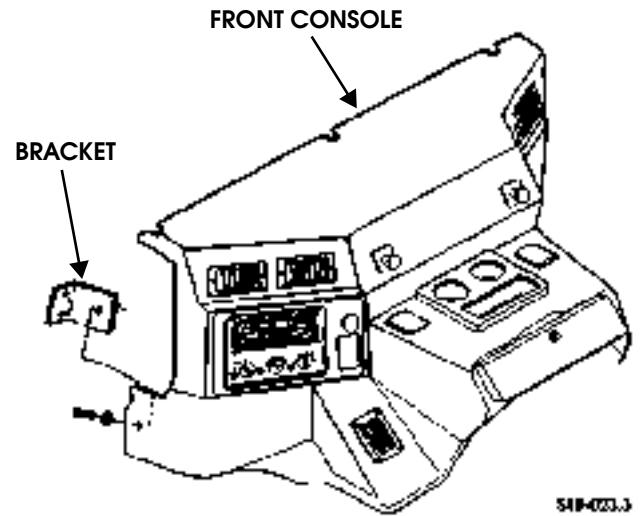

Figure 10-13: Front Console Mounting
2. Remove bolts securing front console to body brackets and screws from top of console (Figure 10-13).